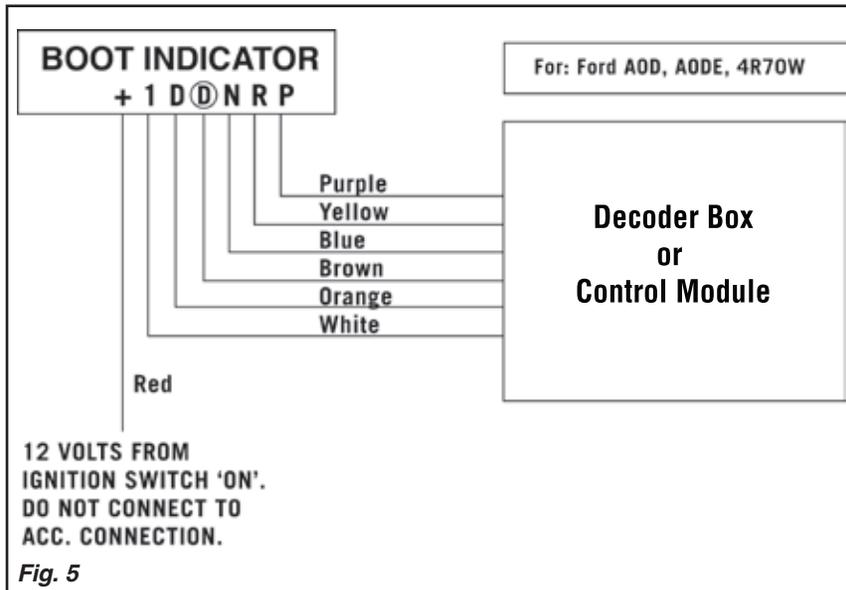
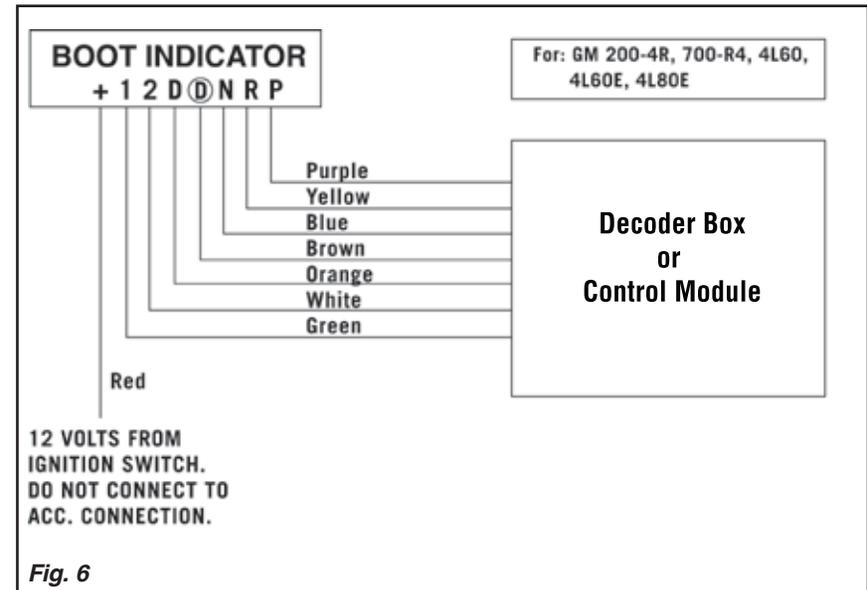

Fig. 5
Fig. 6
**Step 10:** Use the appropriate transmission wiring diagram to connect the indicator wiring harness to the decoder box or control module. *Fig. 4, Fig. 5, or Fig. 6* Make sure the wires are not routed next to any sharp edges.